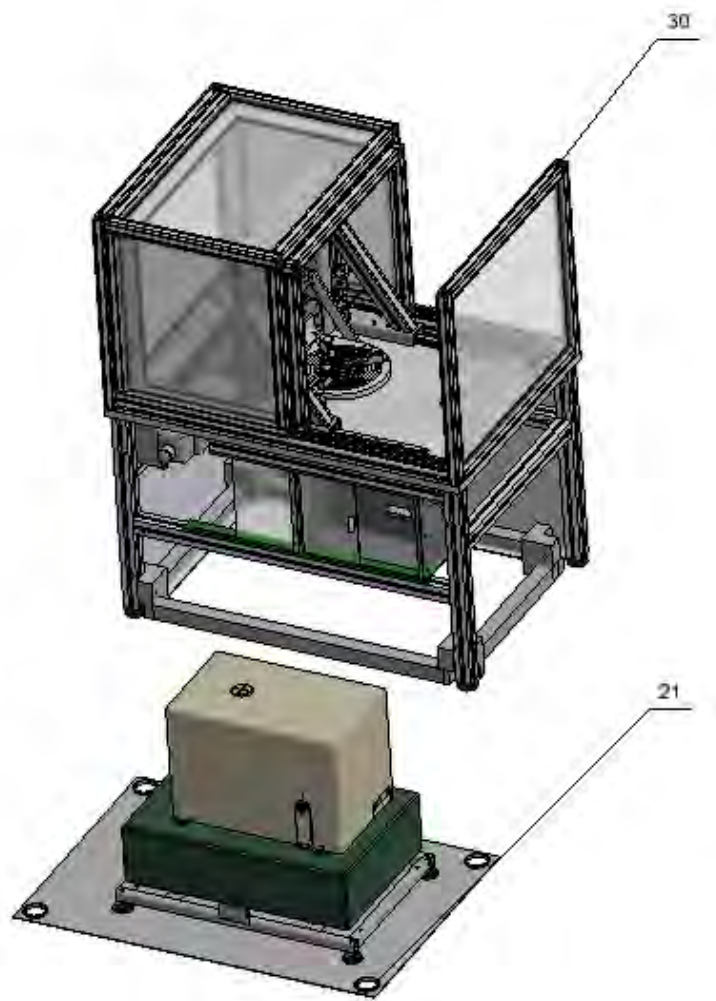

Fig.12
24. Place robot (30) onto stone with comparator located on, make sure that robot feet are inside sleeves of sheet metal plate (21). (Fig. 12)